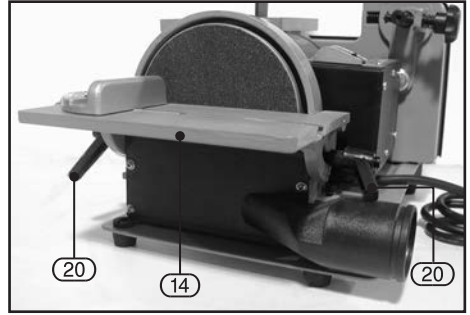

FIG.5
8.4 WORK SUPPORT TABLE ATTACHED TO SANDING DISC - FIG. 5